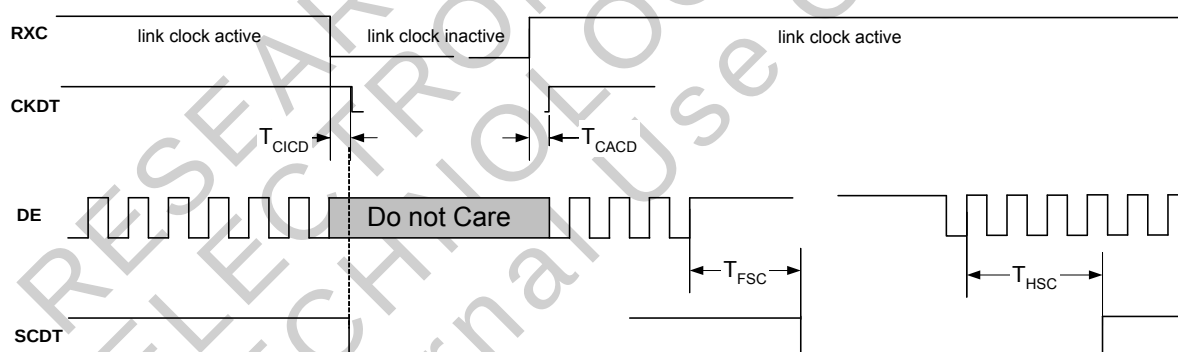

Figure 10. SCDT and CKDT Timing from DE or RXC Inactive/Active
- The SCDT shown in Figure 10 is a register bit. SCDT remains HIGH if DE is stuck in LOW while RXC remains active, but SCDT changes to LOW if DE is stuck HIGH while RXC remains active.
- The CKDT shown in Figure 10 is a register bit. CKDT changes to LOW whenever RXC stops, and changes to HIGH when RXC starts. SCDT changes to LOW when CKDT changes to LOW.